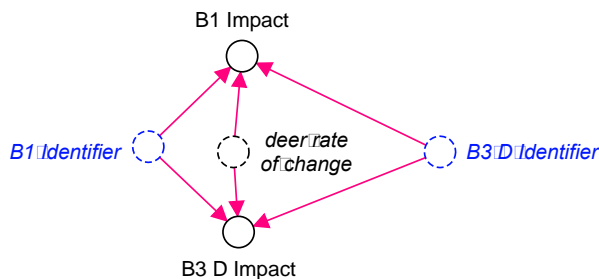

Figure 33: Impacts of B1 and B3 on Deer Population
- Ghost deer rate of change, B2 Identifier, and B3 D Identifier and connect as in Figure 33